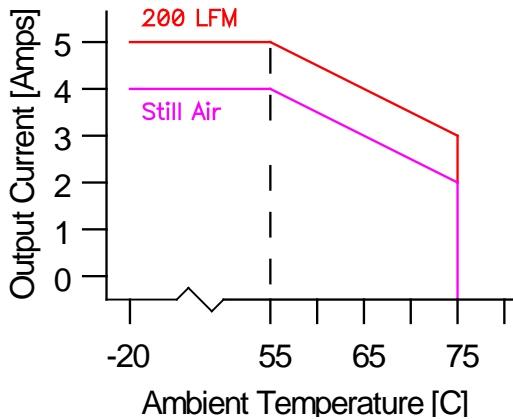

Fig. 1: Multi-SD Derating
1. See fig. 1 for derating above 55°C
WARNING: The **SmartFan** Multi-SD is a non-isolated power product and generates heat. To maintain safety and reliability, mount in a ventilated enclosure and maintain an operating temperature of 55°C or less or provide airflow. See Fig. 1 for derating above 55°C. Protect user from contact with power connections, board surface, and components.